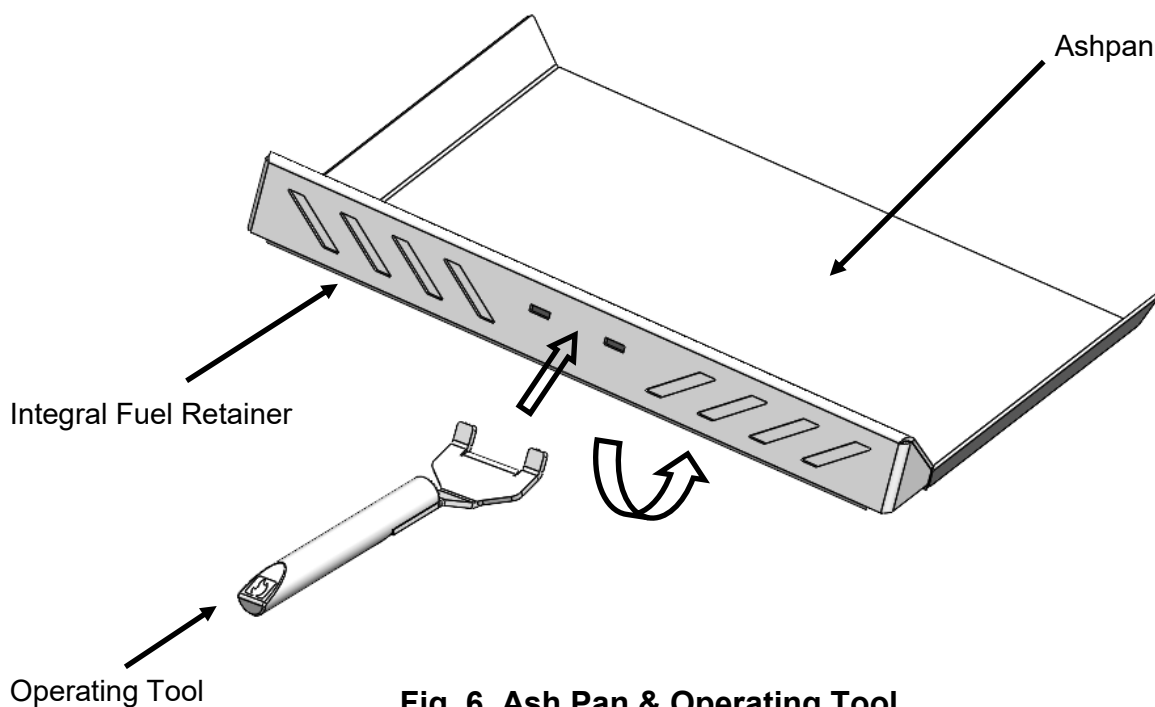

Fig. 6. Ash Pan & Operating Tool
- Insert the fork end of the operating tool into the ash pan (see Fig. 6.).